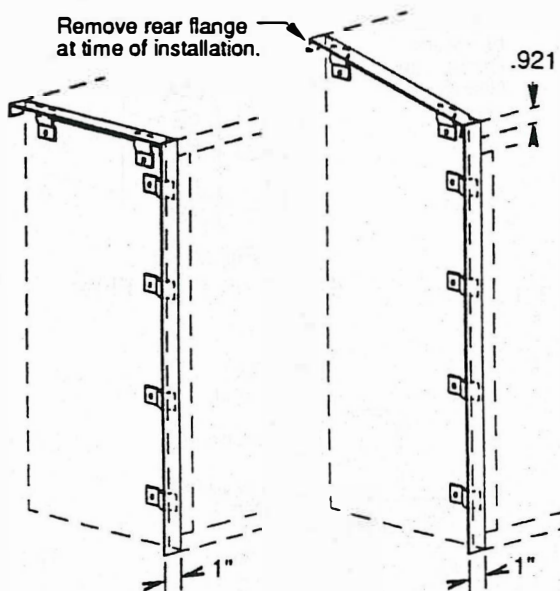

Figure 7
5. Upper Case Filler (1" & 6" wide). Figures 7, 8, 9 & 10.